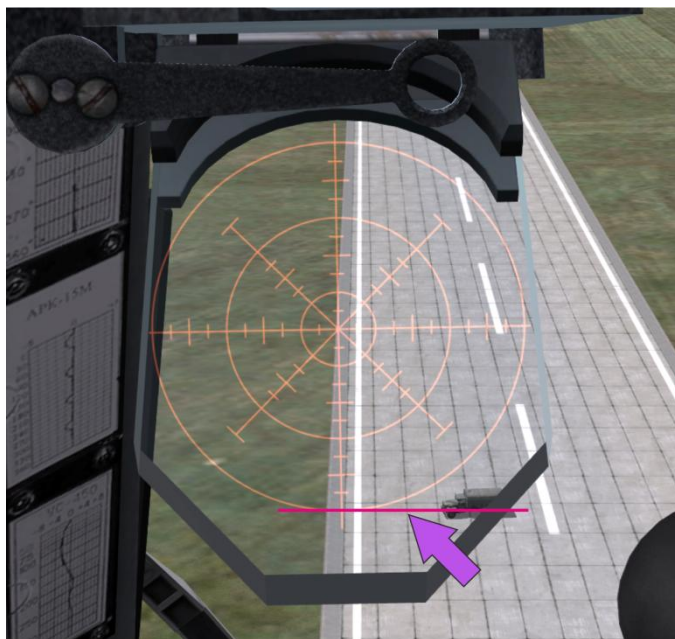

Рис. 9.10. Bomb release point in a LEFT crosswind condition; altitude 100 m
- e) In a crosswind condition, bombs are released when the target passes through an imaginary horizontal line that is tangent to the bottom point of the outside ring of the reticle Рис. 9.10;